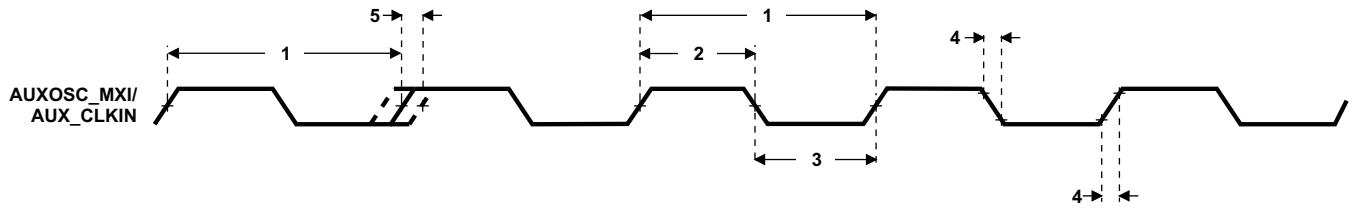

Figure 7-13. AUX_MXI/AUX_CLKIN Timing
Table 7-16. Timing Requirements for AUX_MXI/AUX_CLKIN^{(1) (2)} (see Figure 7-13)